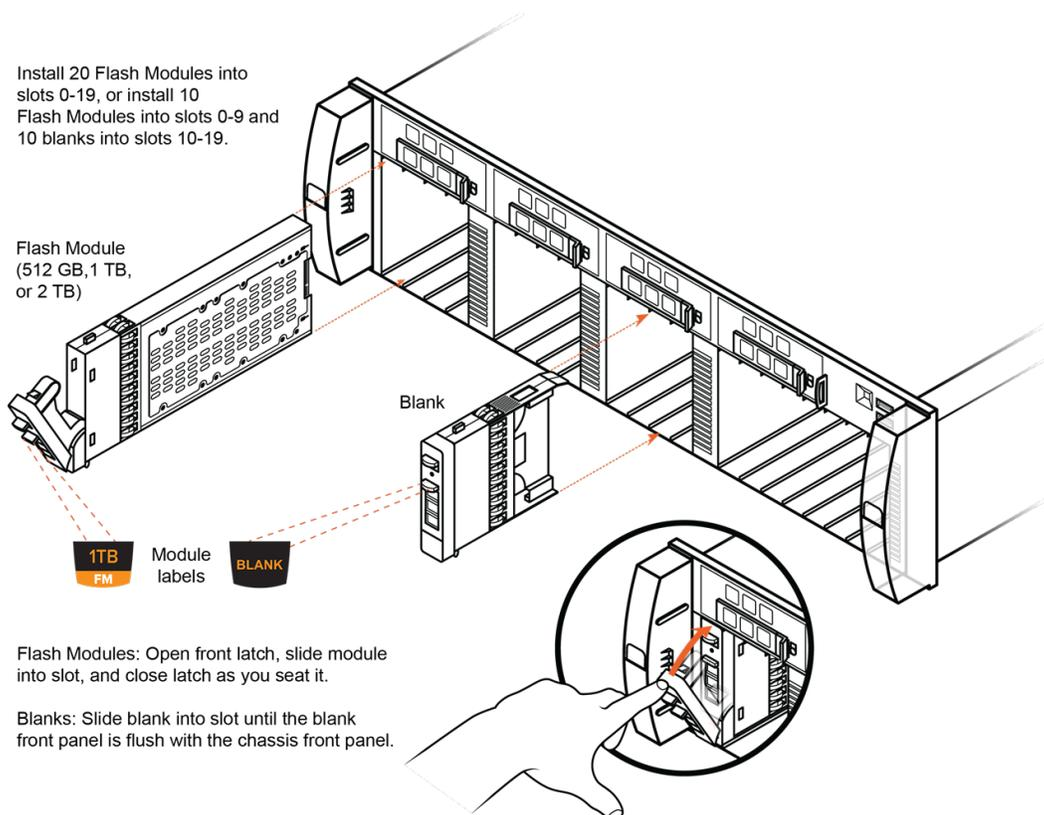

Figure 15-3. Installing Flash Modules
- ⚠ Make sure you install compatible Flash Modules or blanks. The Flash Module label shows the density (i.e., 512 GB, 1 TB, or 2 TB) and the text "FM" (see Figure 15-3).
2. To install a Flash Module, open the Flash Module latch with your thumb or index finger and slide the Flash Module into the slot, closing the latch after you seat it. See Figure 15-3.